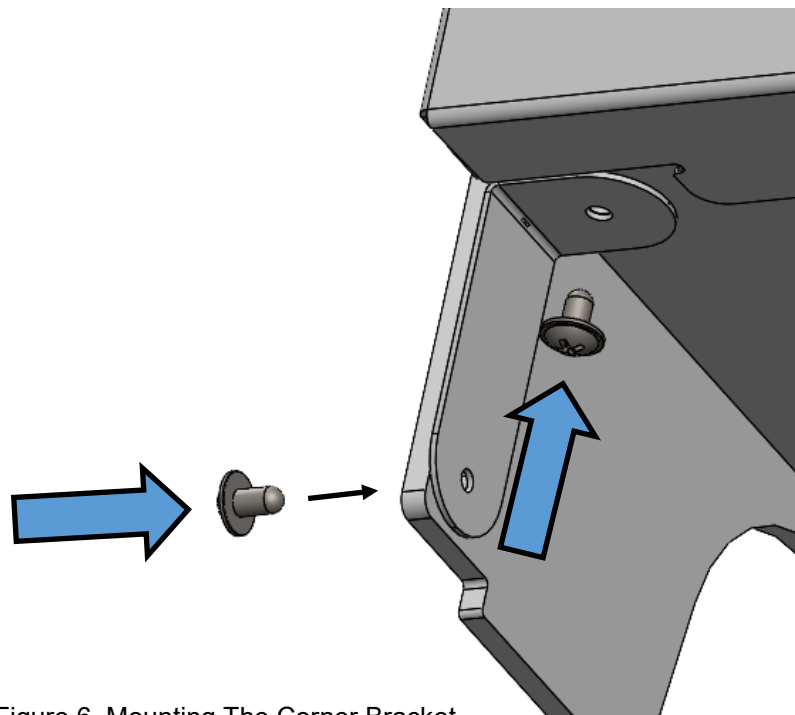

Figure 6. Mounting The Corner Bracket
Step 5 : Next, working at the base of the outside air accessory, take 1x rear corner bracket and place as shown below (Fig. 6). 2 no. self tapping screws are used to affix the bracket to the base of the outside air plate and the other screw attaches the bracket to the side of the stove body. Repeat for the other side.